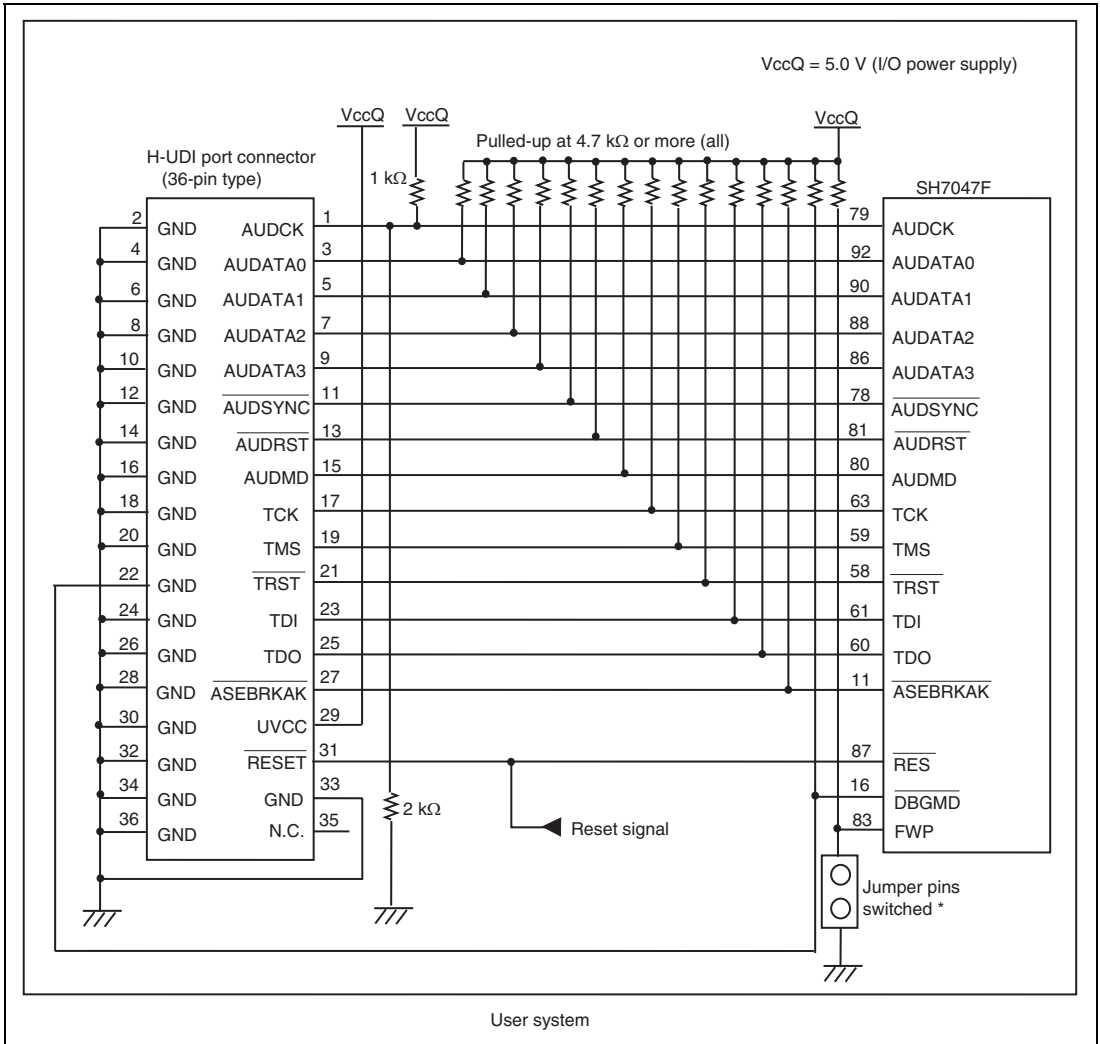

Figure 1.3 Recommended Circuit for Connection between the H-UDI Port Connector and MCU when the Emulator is in Use (36-Pin Type UVCC Connected)
Figure 1.3 shows a recommended circuit for connection between the H-UDI and AUD port connectors (36 pins) and the MCU when the emulator is in use. Figure 1.4 shows a circuit for connection when UVCC is not connected.
- (1) When the emulator is used: /DBGMD = 0 (ASE mode)
- (2) When the emulator is not used: /DBGMD = 1 (normal mode)Figures 1.3 and 1.4 show examples of circuits that allow the /DBGMD pin to be GND (0) whenever the emulator is connected by using the user system interface cable. When the /DBGMD pin is changed by switches, etc., ground pin 22. Do not connect this pin to the /DBGMD pin.
7. When the power supply of the user system is turned off, supplying VccQ of the user system to the UVCC pin reduces the leakage current from the emulator to the user system. Buffers that can be activated by the internal power supply or user power supply (changed by the switch) are installed in the interface circuit of the emulator. If the user power is selected for supply to the UVCC pin, the buffers will not be activated unless supplied with user power. Thus no current flows from the user interface when the power supply of the user system is turned off. The I/O voltage level of the user system interface can be the same as that of the VccQ. To operate the emulator with low voltage (lower than 5.0 V), the VccQ must be supplied to the UVCC pin. Make the emulator's switch settings so that the VccQ will be supplied (SW2 = 1 and SW3 = 1) (as shown in figure 1.3).
8. The resistance values shown in figures 1.3 and 1.4 are recommended.
When the circuit is connected as shown in figure 1.3, the switches of the emulator are set as SW2 = 1 and SW3 = 1. For details, refer to section 3.8, Setting the DIP Switches, in the SuperH™ Family E10A-USB Emulator User's Manual.